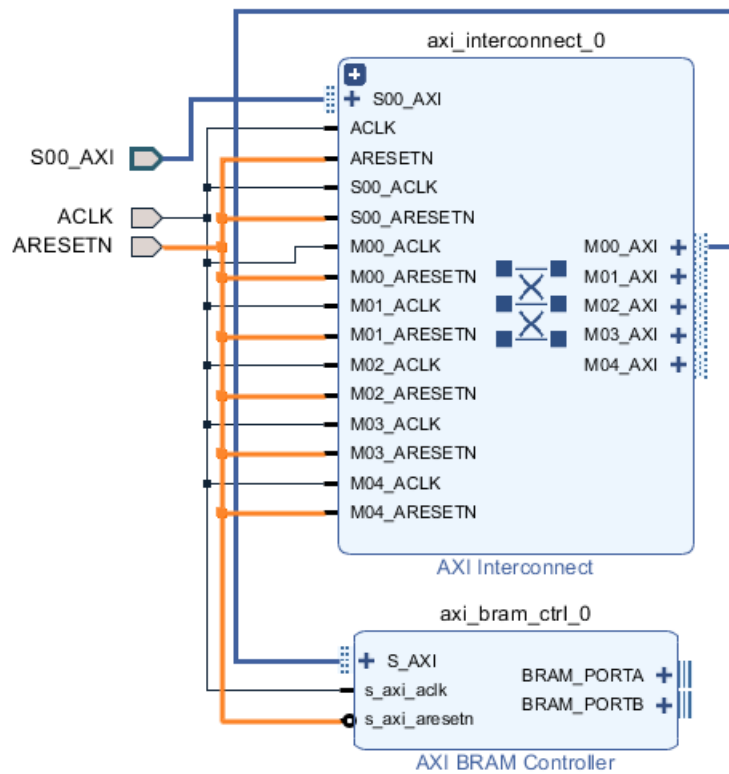

Figure 20: Connect the AXI BRAM Controller to the AXI Interconnect
6. Connect the **s_axi_aclk** and the **s_axi_aresetn** pins of the AXI BRAM Controller to the **ACLK** and **ARESETN** ports. Figure 20 shows these connections.